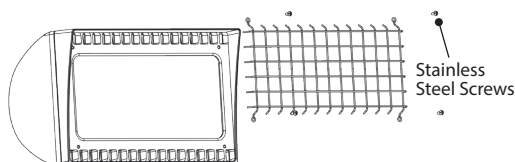
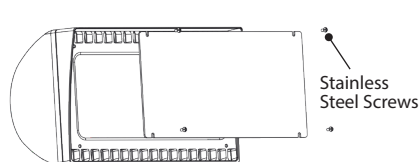
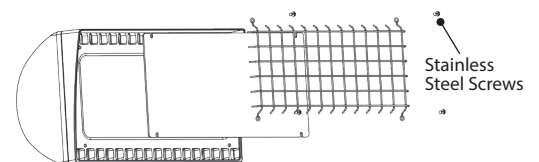

Fig. 1
Fig. 2
Fig. 3
Wire Guard and Poly Shield mount with (4) #8-32 **Stainless Steel Screws**. **Screws** are provided with accessory. **Guard** and **Shield** may be used together. See **Figure 1** for **Guard**, see **Figure 2** for **Shield**. See **Figure 3** for both.